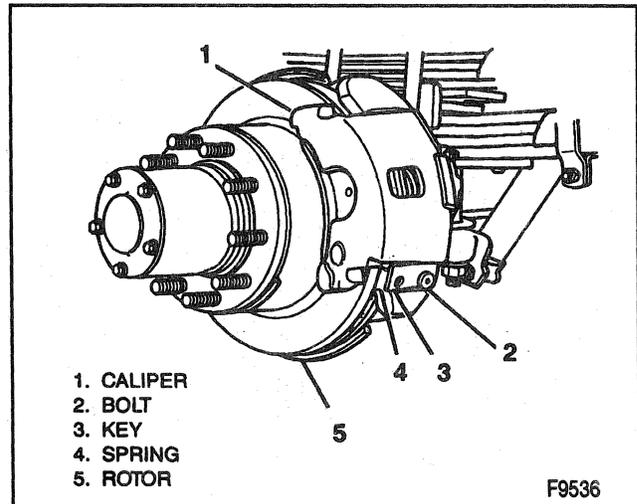

Figure 4—Disc Brake Assembly
8. Bolt (2) (Figure 4).
9. Support key (3) and spring (4) (Figure 4).
10. Caliper assembly (1) (Figure 4).
→ Install or Connect (Figures 4 and 6)
2. Caliper assembly (1) (Figure 4).
3. Spring (4) and support key (3) (Figure 4).
4. Bolt (2) (Figure 4).